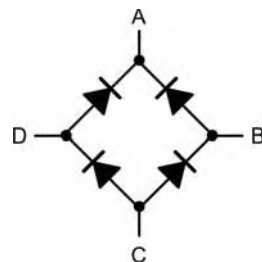

Figure 6.141
20. The alternating current input to the bridge rectifier shown in Figure 6.141 should be connected at terminals: [B2]